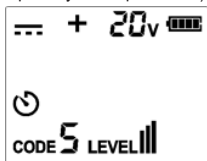

Figure 12.1a DC voltage measurement
4. When the voltage is 8 V ~ 480 V DC/AC (50/60 Hz). If the measured voltage is DC voltage and the positive pole is connected to V+ port, then the polarity of the port will be displayed (the polarity of V+ port is "+"), as shown in Figure 12.1a.